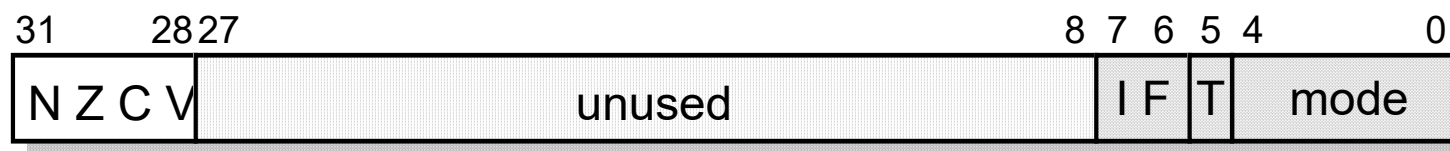

Fig. 2.2 ARM CPSR format
- ◆ The bits at the bottom of the register control the processor mode, instruction set, and interrupt enables and are protected from change by the user-level program (Fig. 2.2)